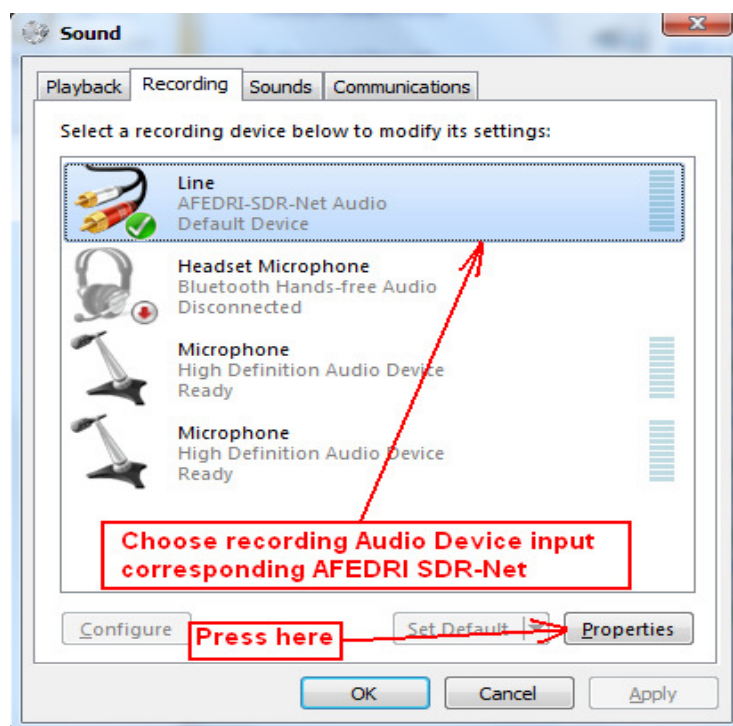

Figure 15 "Sound" window
- In “Sound” window go to “Recording” tab, choose audio input device that corresponds to AFEDRI SDR-Net receiver and press “Properties” button (see **Figure 15**.)